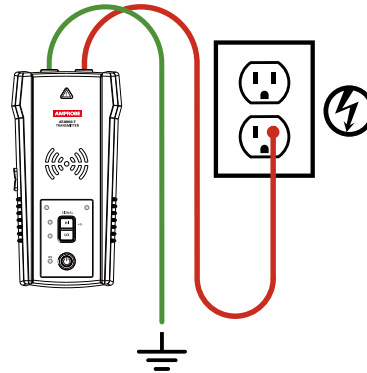

Figure 3.1a:
3. Connect the red test lead to the line/phase wire being traced. For Energized systems the signal will ONLY be transmitted between the load-side to which the Transmitter is connected and the source of power (see Figure 3.1a)